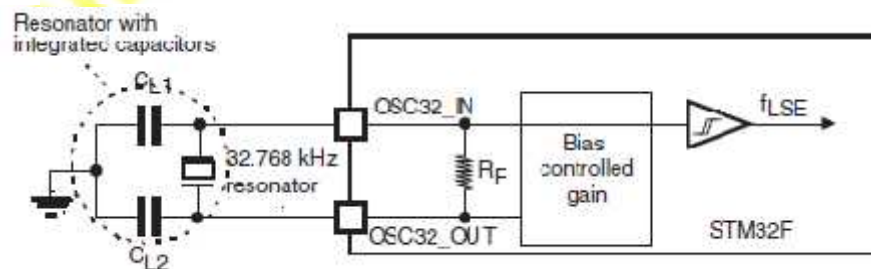

Figure 4-1. Typical application with a 32.768 kHz crystal
**Note:** For  $C_{L1}$  and  $C_{L2}$  it is recommended to use high-quality external ceramic capacitors in the 5pF to 15pF range selected to match the requirements of the crystal or resonator (see Figure 4-1).  $C_{L1}$  and  $C_{L2}$  are usually the same size. The crystal manufacturer typically specifies a load capacitance which is the series combination of  $C_{L1}$  and  $C_{L2}$  are Load capacitance  $C_L$  has the following formula:  $C_L = C_{L1} \times C_{L2} / (C_{L1} + C_{L2}) + C_{\text{stray}}$  where  $C_{\text{stray}}$  is the pin capacitance and board or trace PCB – related capacitance. Typically, it is between 2pF and 7pF